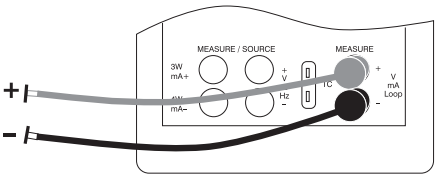

Figure 16. Isolated Input Connection
- 2. Select the desired primary parameter to be measured. Connect the leads to the isolated inputs of the calibrator, as in Figure 16.